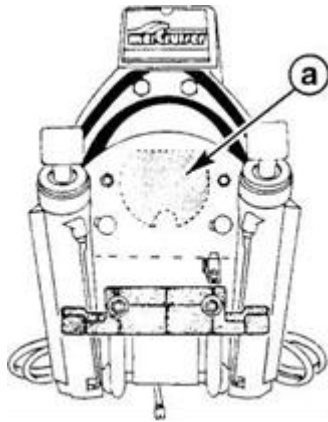

Figure 13 - Position of the dust cover on the outboard transom.
10. Remove the dust cover from the outboard part of the stern drive at the transom, indicated with the letter a in Figure 13.